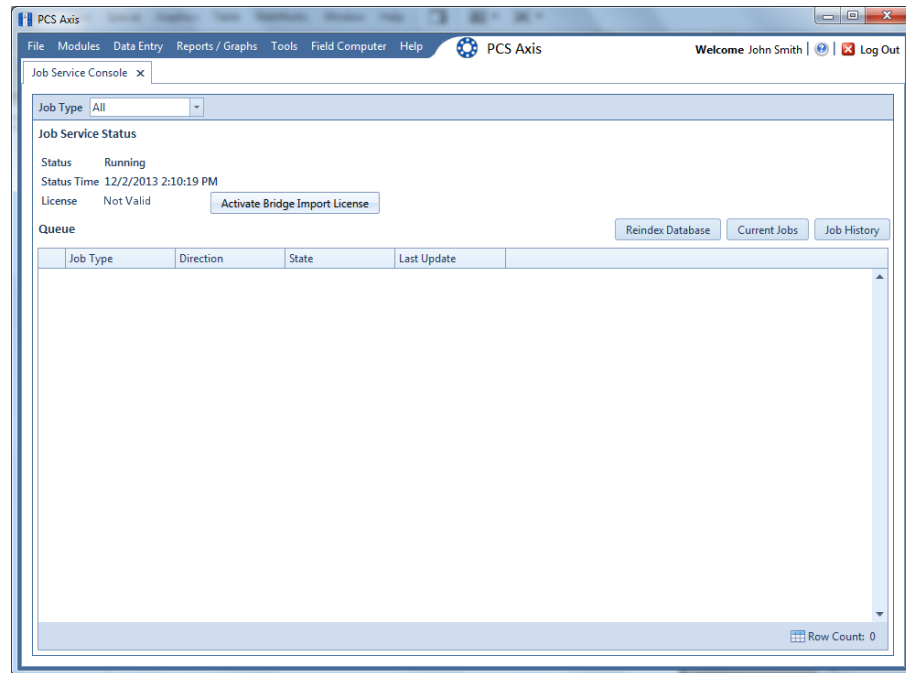

Figure 2-2. Job Service Console
- 2 Click **Tools > Job Service Viewer** to open the *Job Service Console* window (Figure 2-2, page 18)